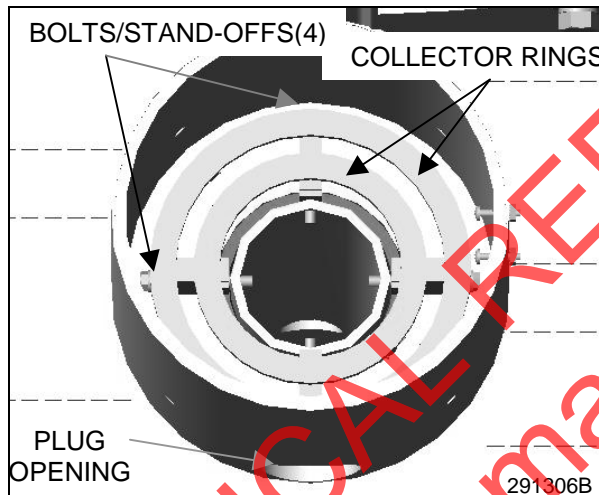

Figure 4-8. Collector Rings
7. Remove the collector rings with stand-offs and cables still attached (see Figure 4-8).